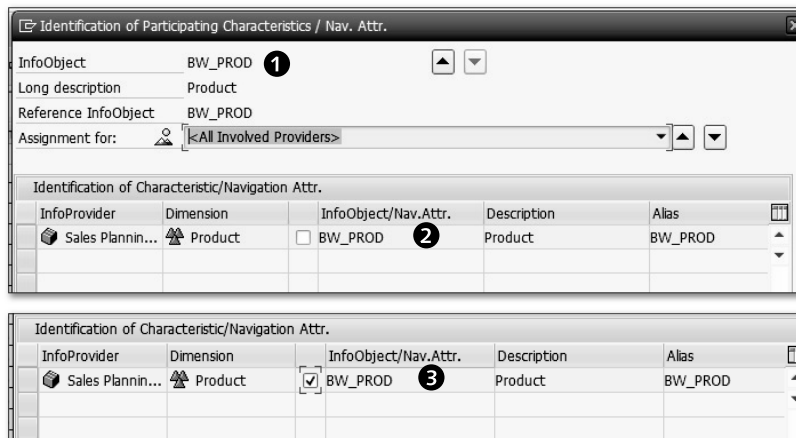

Figure 6.12 Edit MultiProvider: Identify Characteristics from Only One InfoCube
You might also have a scenario where the characteristics can't be matched to characteristics or a navigation attribute in another InfoCube or data target included in the definition of a MultiProvider. For example, characteristic BW_PROD is included in the MultiProvider definition (1 of Figure 6.12) and offered only from the SALES PLANNING CUBE InfoCube (2) because there's no matching characteristic available in the Sales InfoCube. In this case, you select the characteristics as we've shown in (3) of Figure 6.12.